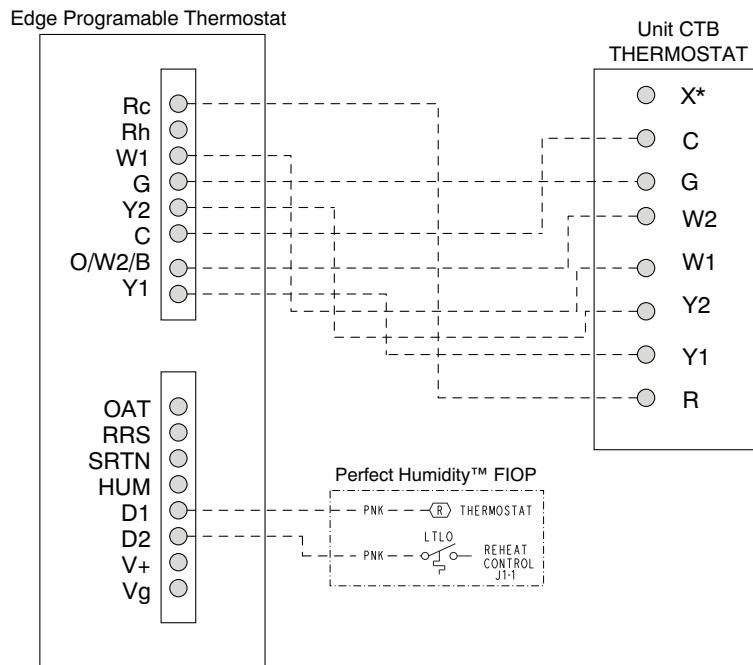

Fig. 33 - Typical Rooftop Unit with Perfect Humidity Dehumidification System with Edge Programmable Thermostat
3. The Edge Programmable Thermostat has dry contacts at terminals D1 and D2 for dehumidification operation (see Fig. 33). The dry contacts must be wired between CTB terminal R and the PINK lead to the LTLO switch with field-supplied wire nuts. Refer to the installation instructions included with the Bryant Edge Programmable Thermidistat device for more information.